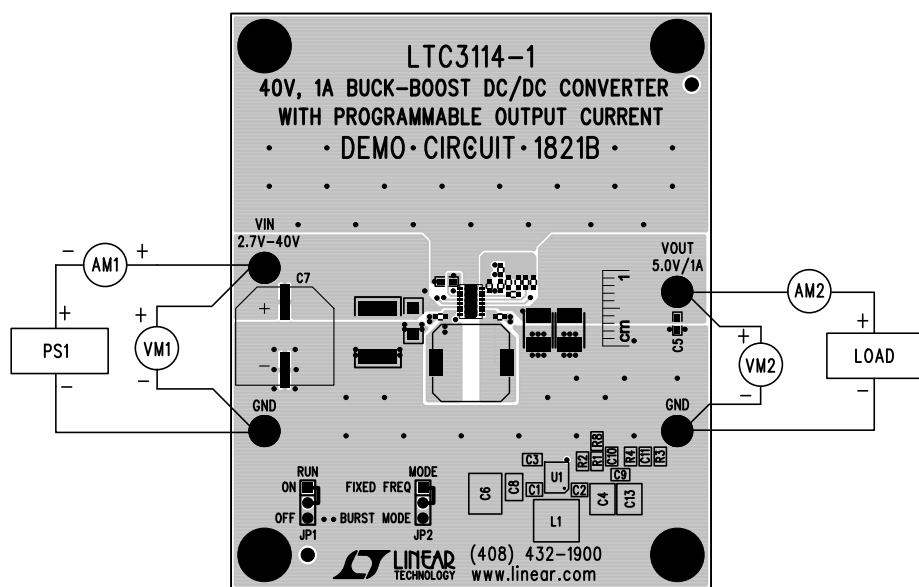

Figure 4. Proper Measurement Equipment Setup
Using short twisted pair leads for any power connections and with all loads and power supplies off, refer to Figure 4 for the proper measurement and equipment setup. The battery/power supply (PS1) should not be connected to the circuit until told to do so in the procedure below.
2. With power OFF connect the power supply (PS1) as shown in Figure 4. If accurate current measurements are desired (for efficiency calculations for example) connect an ammeter in series with the supply as shown. The ammeter is not required however.
3. Connect a 500mA load to  $V_{OUT}$  as shown in Figure 4 ( $10\Omega$  for  $V_{OUT} = 5V$ ). Connect an ammeter if accurate current measurement or monitoring is desired.